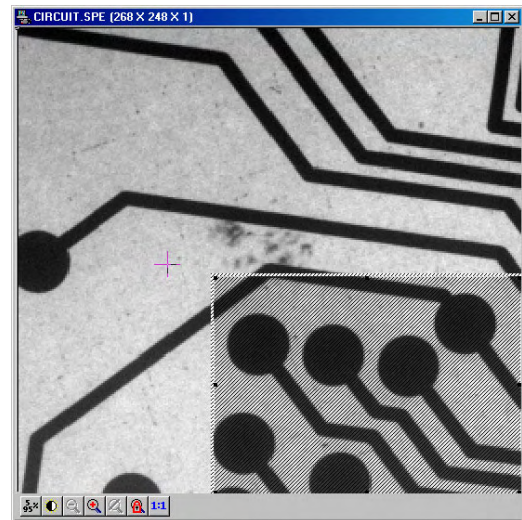

Figure 49. *Circuit.spe with Region selected for viewing*
1. Using the mouse, position the cursor at one corner of the region to be defined, depress the left mouse button, drag the cursor to the diagonally opposite corner, and release the mouse button. Refer to Figure 49.